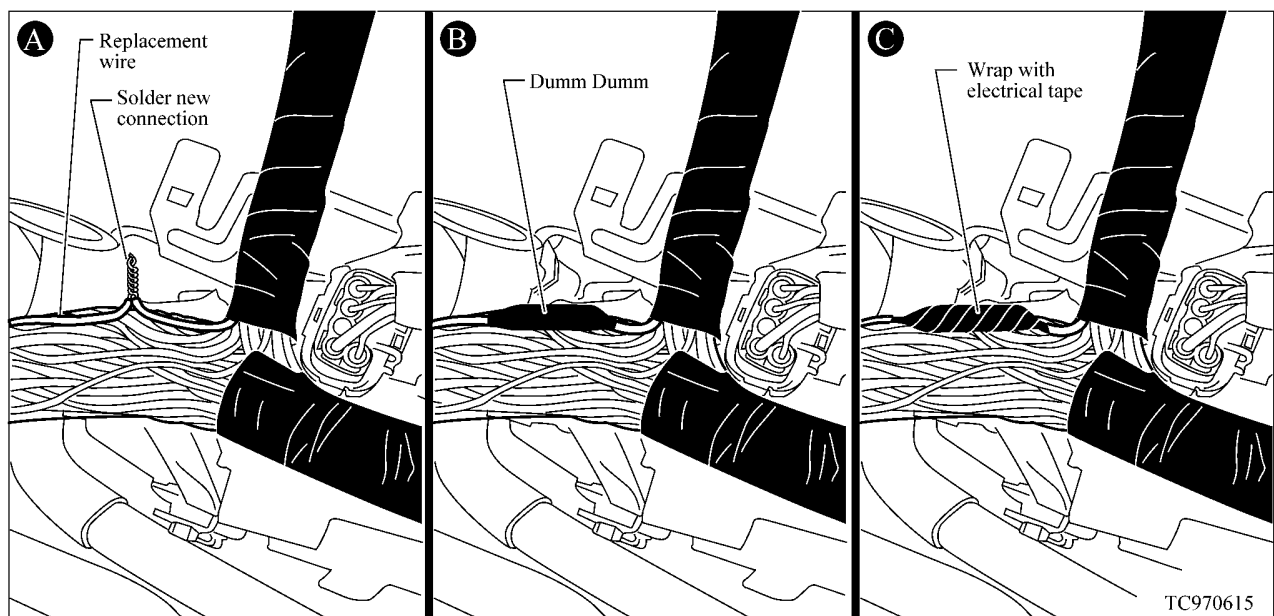

Figure 9
12. Replace the broken wire with an equivalent gauge wire. Splice the bulkhead side of the wire first. Then lay the wire along the harness up to the harness intersection to determine the correct length for the replacement wire (see Figure 9).
NOTE: Perform this procedure to both ends of the replacement wire. Only the top splice is illustrated in Figure 9.